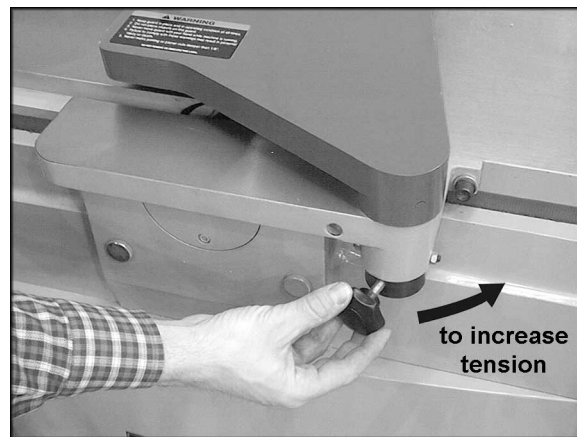

Figure 24
The tension of the guard (Figure 24) must always be sufficient during jointer operations to cause the guard to conceal the unused part of the cutterhead, and to swing back to contact the fence after the workpiece has cleared the cutterhead. To adjust the guard tension:
1. Loosen the knob shown in Figure 24 and push the knob to the right to increase guard tension; or to the left to decrease guard tension.